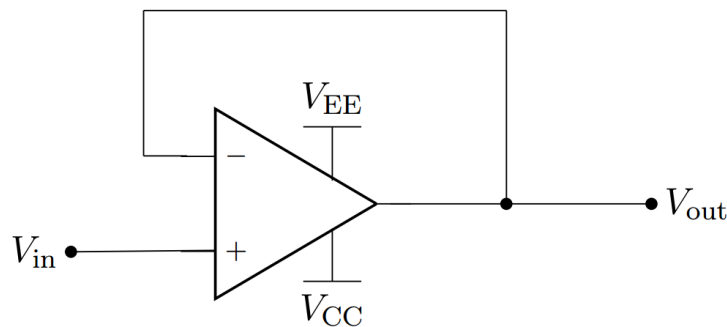

Figure 3.1: Voltage follower schematic
| Figure 3.1: | Voltage follower schematic.....            | 2 |
Voltage followers are useful to audio circuits because they serve as a buffer between the input signal and the rest of the circuit: if there is a sudden current or voltage surge in the input the high input resistance prevents that surge from damaging the rest of the circuit. The voltage follower is also able to completely transfer the input to the rest of the circuit, unless the signal is operating at a frequency higher than the op-amp slew rate. Figure 3.1 shows the circuit schematic for a voltage follower circuit.
Calculate the value for the circuit’s gain, which is  $V_{out}/V_{in}$ , in Figure 3.1. Assume the op-amp is ideal.
Since the op-amp gain  $A_v$  is not ideal, is finite, and varies as a function of frequency (see the op-amp specifications), the circuit in Figure 3.1 might not perform as a voltage follower.
- a) Analyze the circuit in Figure 3.1 to derive an equation for the circuit gain  $V_{out}/V_{in}$ , as a function of  $A_v$ . Assume the op-amp is non-ideal.
Use SPICE transient analysis to simulate the circuit in Figure 3.1, with power supplies  $V_{CC} = 12\text{V}$  and  $V_{EE} = -12\text{V}$ . The input should be a square wave with an amplitude of  $-10\text{V}$  to  $+10\text{V}$ , a frequency of 3kHz, and a duty cycle of 50%.
Build the circuit in Figure 3.1 with power supplies  $V_{CC} = 12V$  and  $V_{EE} = -12V$ . Set the function generator to provide a square wave with an amplitude of  $-10V$  to  $+10V$ , a frequency of 3kHz, and a duty cycle of 50%.